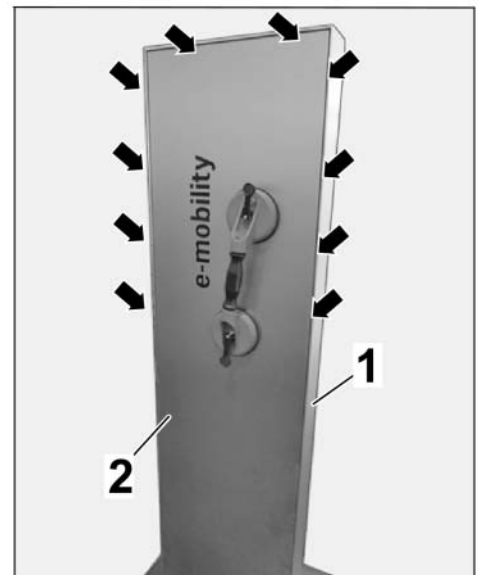

Figure 16
- 4.1.3 Check that there is an equal gap ⇒ *Figure 16 -Arrows-* between the frame and glass (shown on aluminum back).